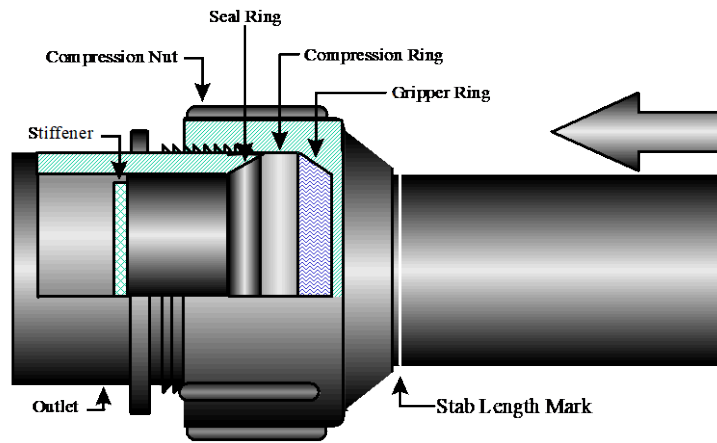

Figure 1
5. Stab the pipe into outlet up to (not past) the stab mark. (When stabbing the pipe, the compression nut should be loosened to the point that at least three to five threads are showing). See figure 1.